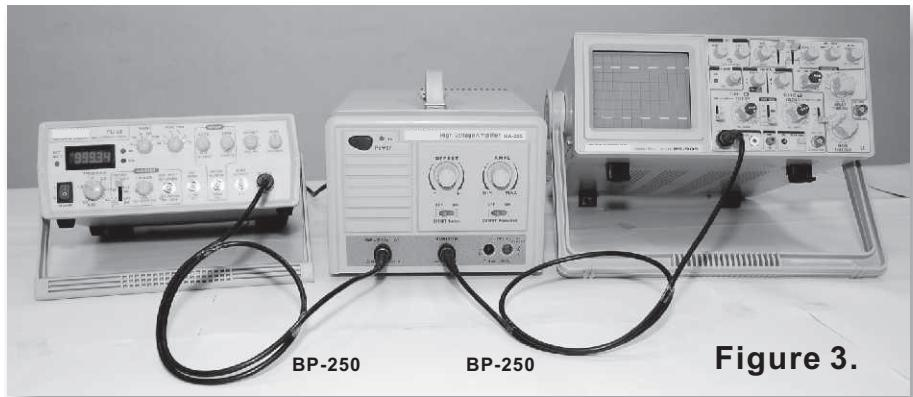

Figure 3.
5.1 Use Function Generator as input terminal, and directly connect HA-205 Monitor to Oscilloscope to observe the real amplified situation (Figure 3.)